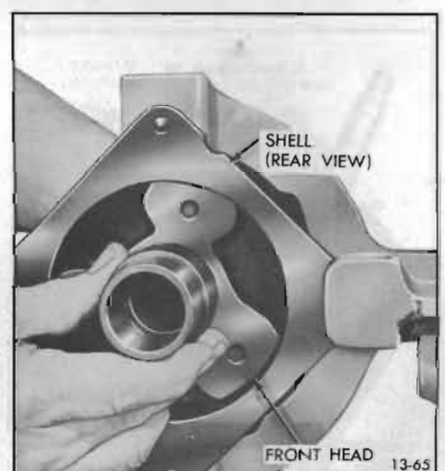

Figure 13-65—Removing Front Head
3. Disassemble front head from shell by tapping front head with a mallet to unseat head, and lifting straight out through rear of shell the front head and shell to head "O" ring (see Figure 13-65). Discard "O" ring.